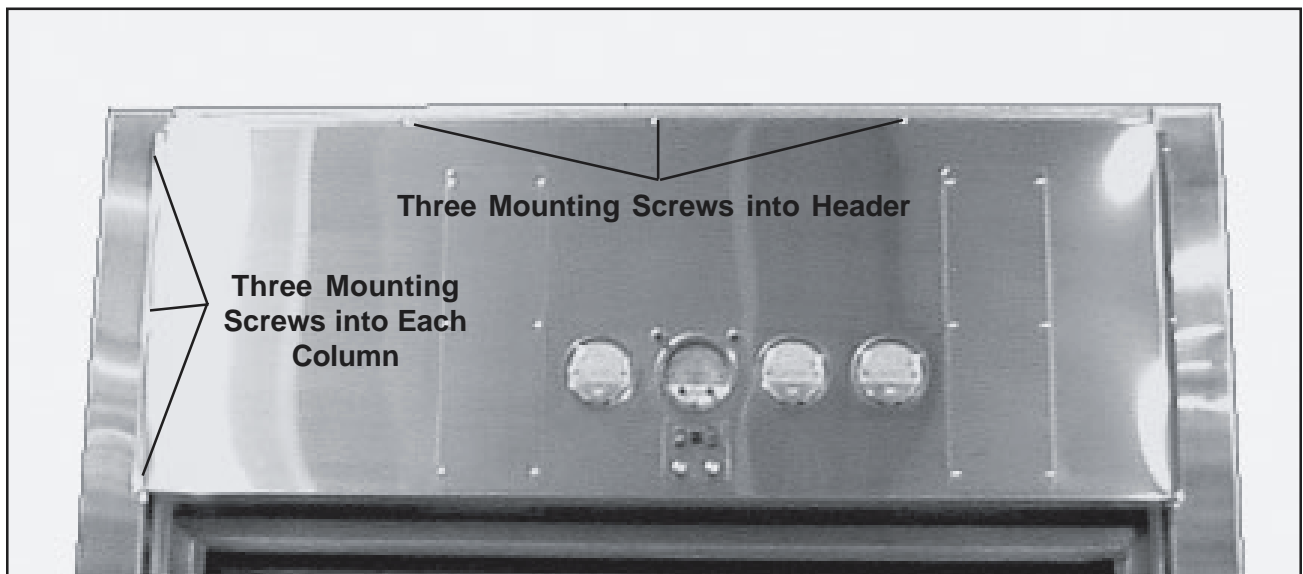

Figure 59. Mounting Screws on Front Panel
2. With a Phillips screwdriver, remove the nine mounting screws that hold the front panel to the columns and header (Figure 59).